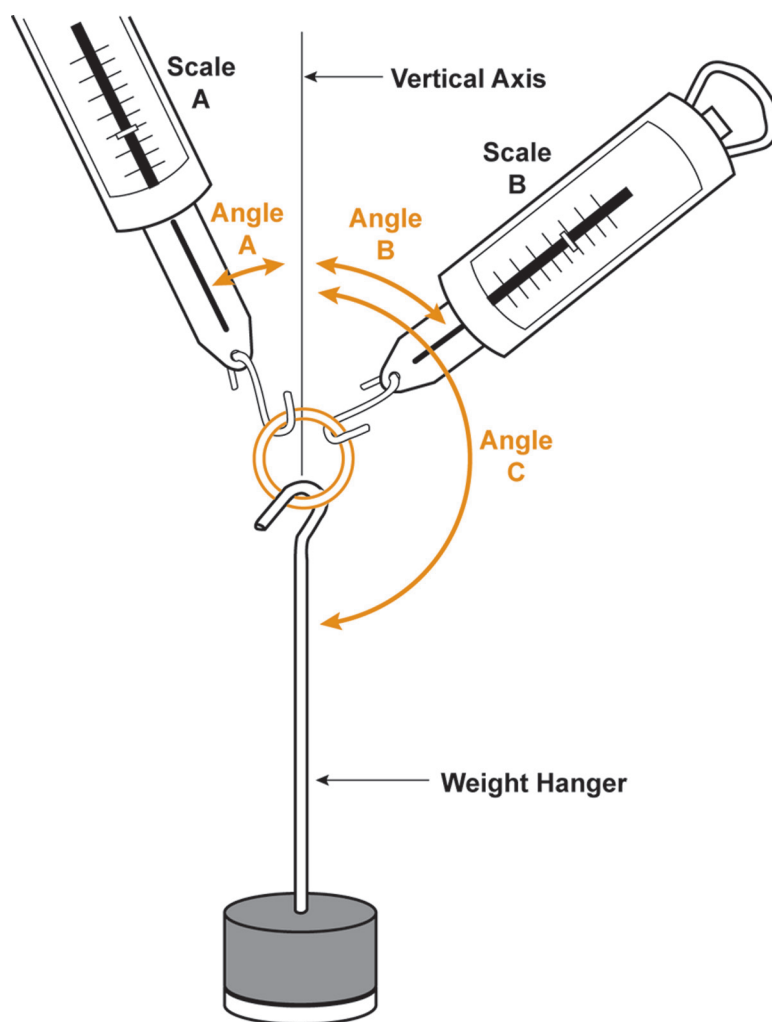

Figure 6
- 5. Refer to Figure 6 for details on how to read the angles. Use a protractor to read angle A . Record all angles that are to the right of the vertical axis as positive angles. Record all angles that are to the left of the vertical axis as negative angles. This will produce a negative reading for angle A . Move the protractor to the other side and read angle B . Record these values in Data Table 1. Since the weight is pulling straight down on the weight hanger, angle C is 180° .